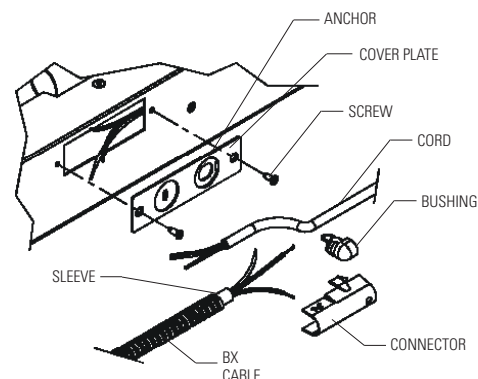

FIG.13
E. DAISY CHAIN INSTALLATION: (Fig.13)